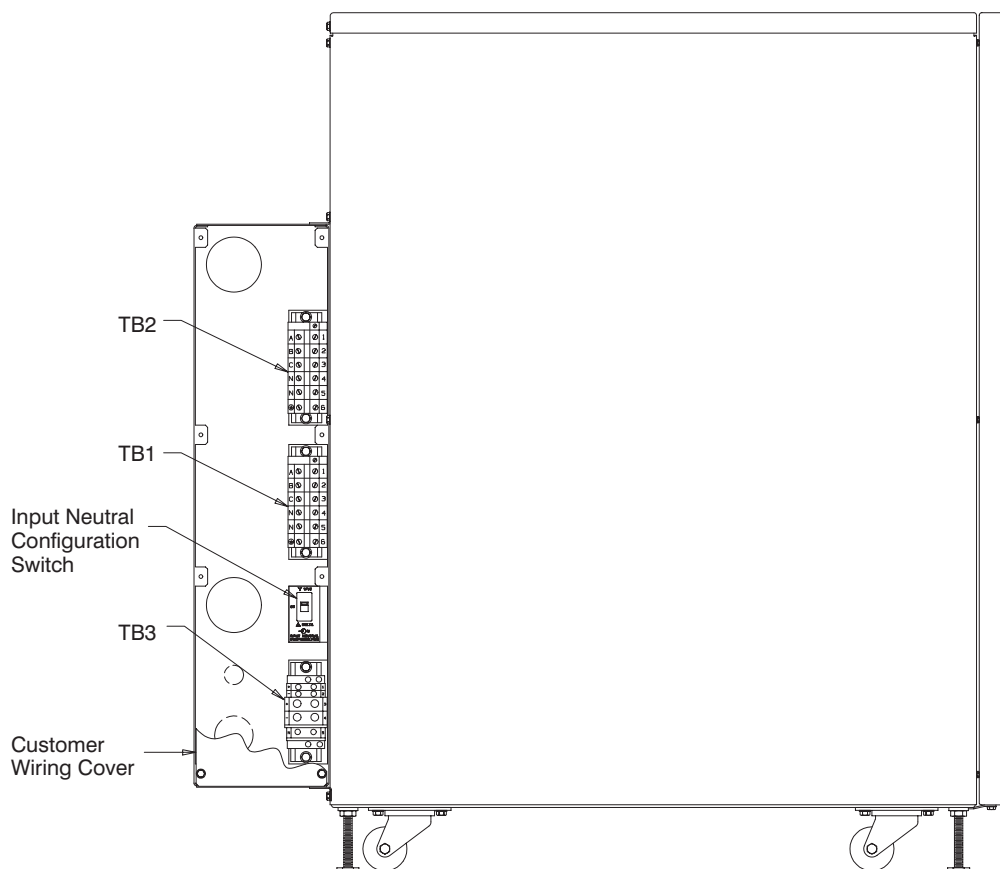

Figure 8. Power Processor Cabinet (Left Side View)
See Figure 8 for the location of the power cable terminal block and the conduit access. Use the following procedure to perform the electrical installation for your UPS.
2. Remove the screws on the customer wiring cover of the power processor cabinet rear panel with a 5/16" hex-nut driver (see Figure 8 on page 41).
6. If you are using a Remote Emergency Power-Off switch, hardwire the terminal block positions 1 and 2. See the termination table on page 42 for proper connections. See Figure 8 on page 41 for the connection locations.
1. Locate the Input Neutral Configuration switch located on the rear wiring panel of the power processor cabinet (see Figure 8 on page 41).